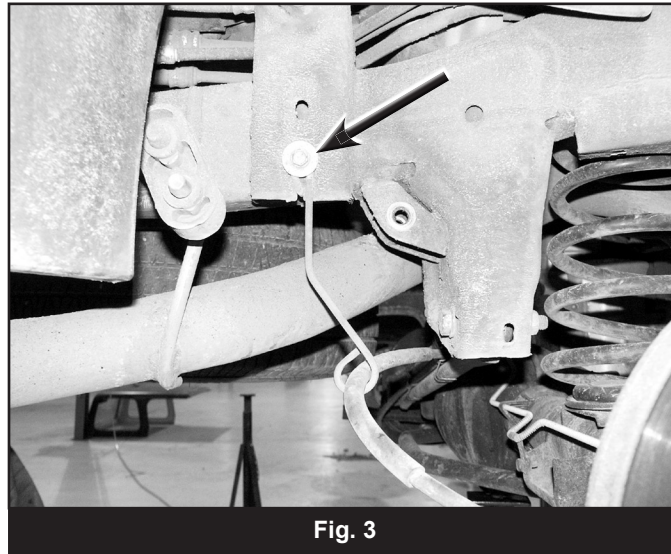

Fig. 3
9. Disconnect the parking brake cable loop from the passenger's side frame rail. Remove the loop from the cable (Fig 3).